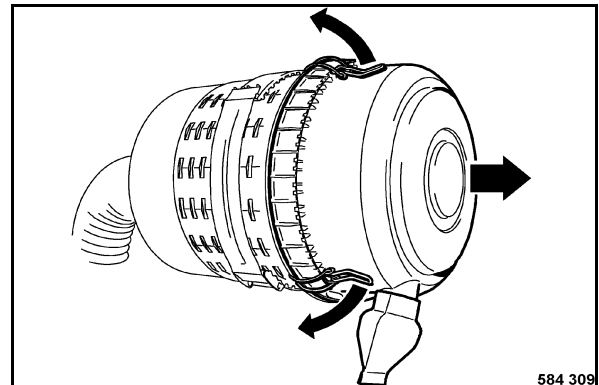

Fig. 183
- Loosen both locking hooks (Fig. 183) on the housing cover and take the cover off.